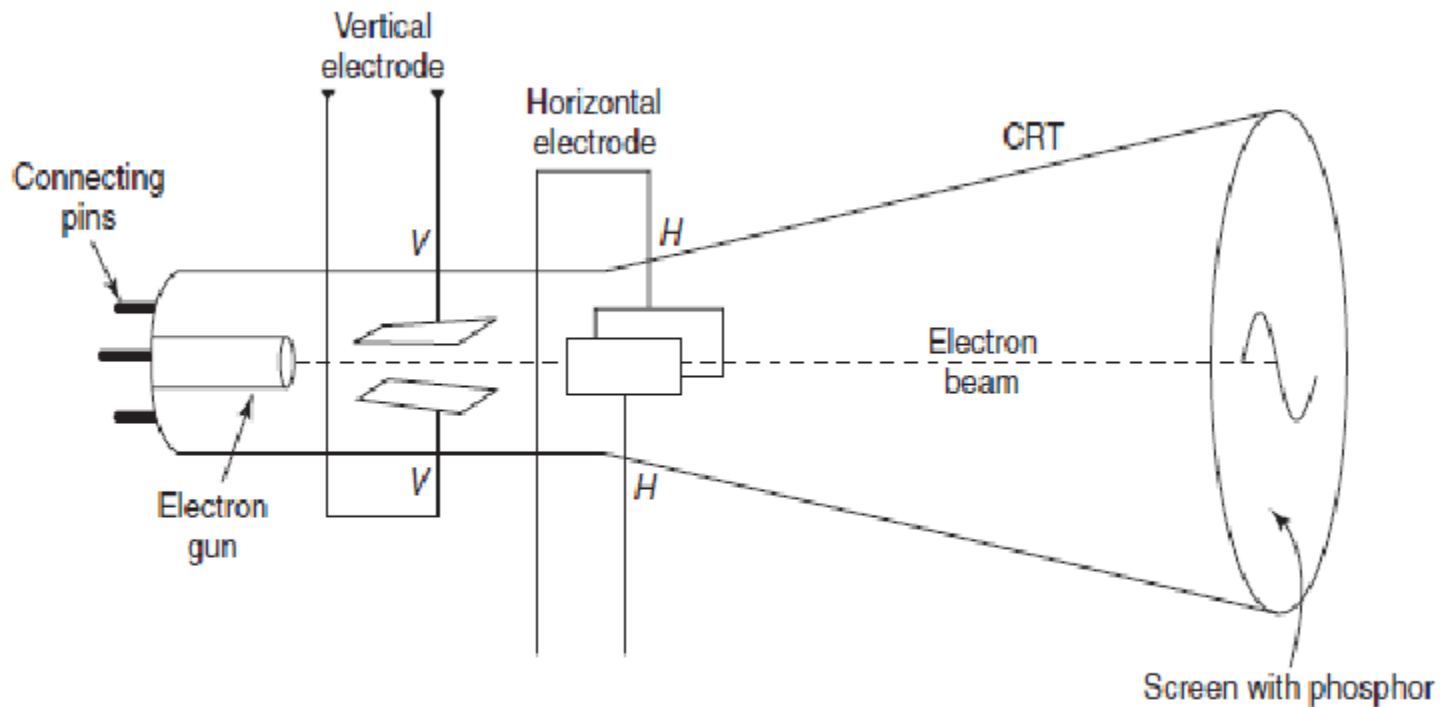

Figure 14-2 Components of a cathode-ray oscilloscope
- The **electron gun or electron emitter, the deflecting system and the fluorescent screen** are the three major components of a general purpose CRT. A detailed diagram of the cathode-ray oscilloscope is given in Figure 14-2.